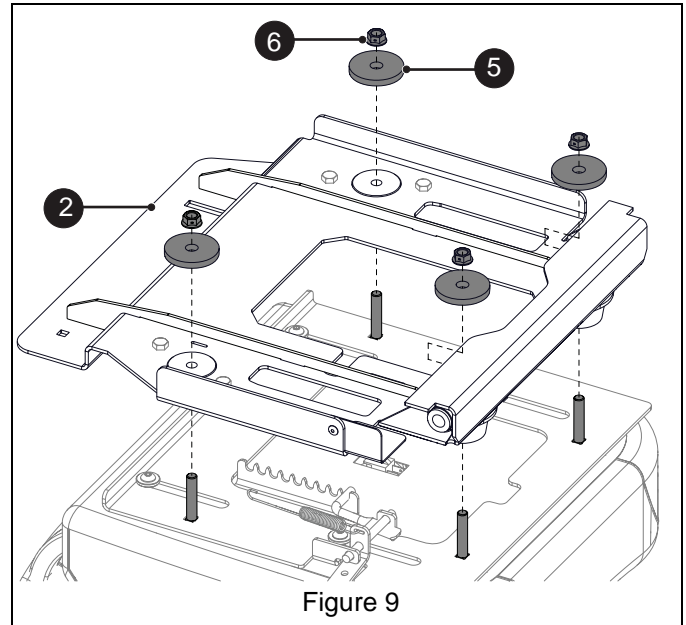

Figure 9
15. Position isolation mount plate assembly (item 2) on four round head square neck bolts and seat mount plate assembly.
16. Install four 1/4" x 2" flat steel washers (item 5) on round head square neck bolts and retain with four 3/8" locking center flange nuts (item 6). Tighten nuts until rubber mounts just begin to bulge and then loosen slightly. Ensure that there at least three bolt threads visible beyond the nuts. See Figure 9.